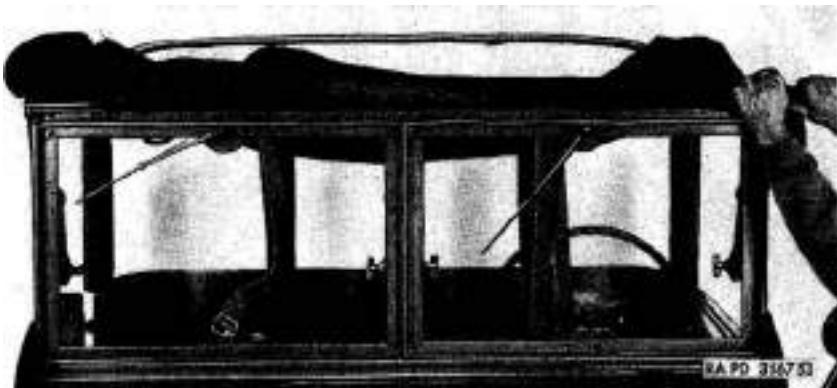

Figure 20. Removing top cover from windshield support frame retainer.
- (4) Disconnect top-bow-to-windshield straps. Fold top cover toward windshield and pull cover from windshield support frame retainer (fig. 20), left side of vehicle.
- (5) Remove top bow from side rail supports.
- (6) Loosen nuts on J- and U-bolts located in the cab lock pillar. Remove right and left top side rail panel and